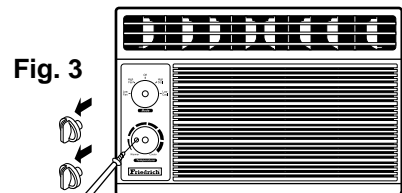

Fig. 3
1. Remove the temperature and mode control knobs by gently pulling them off. (Fig.3)
2. Remove the screw securing the Front Grille. (Fig.3) The screw is located behind the bottom temperature knob.